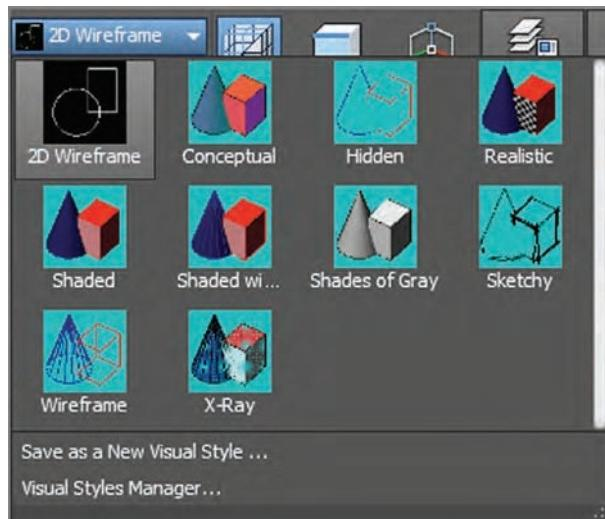

FIGURE 16.2 Selecting a visual style
2. Select the ribbon's Home tab if it is not already selected and open the Visual Styles drop-down menu at the top of the View panel (see Figure 16.2).